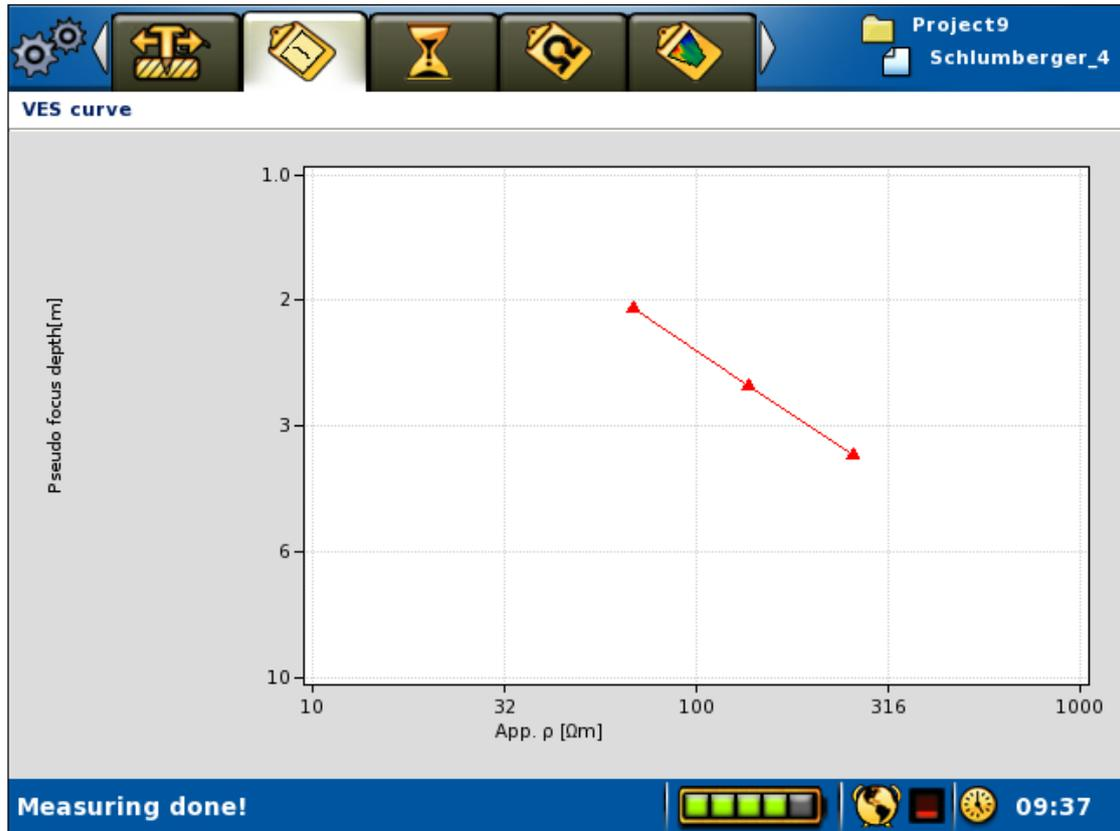

Figure 71 VES Curve View example
- The “*Measure/VES Curve*” *View* (Figure 71) displays a sounding curve of the made measurements
In VES mode a sounding curve will be shown in a double logarithmic diagram on the *VES Curve View* (Figure 71). Focus depth (median depth penetration) will be on the vertical axis and apparent resistivity on the horizontal axis.